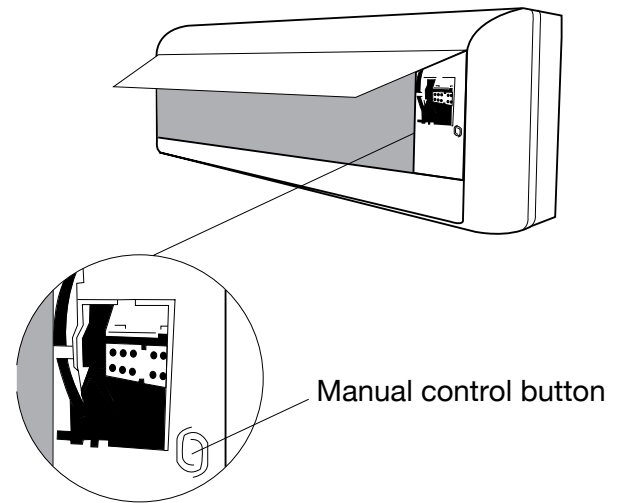

FIG. 8.1
2. The AUTO/COOL button is located on the right-hand side of the unit. Press it 2 times to select the COOL function. See Fig.8.1.